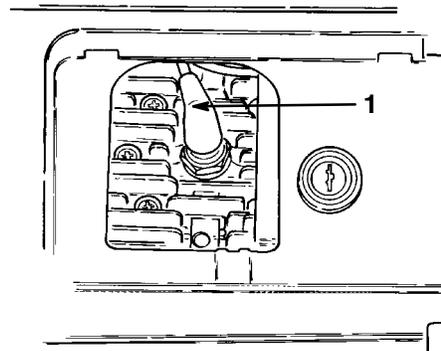

Figure 11
5. Disconnect the wire from the spark plug (Fig. 11).
4. Disconnect the wire from the spark plug and remove the spark plug (Fig. 11).